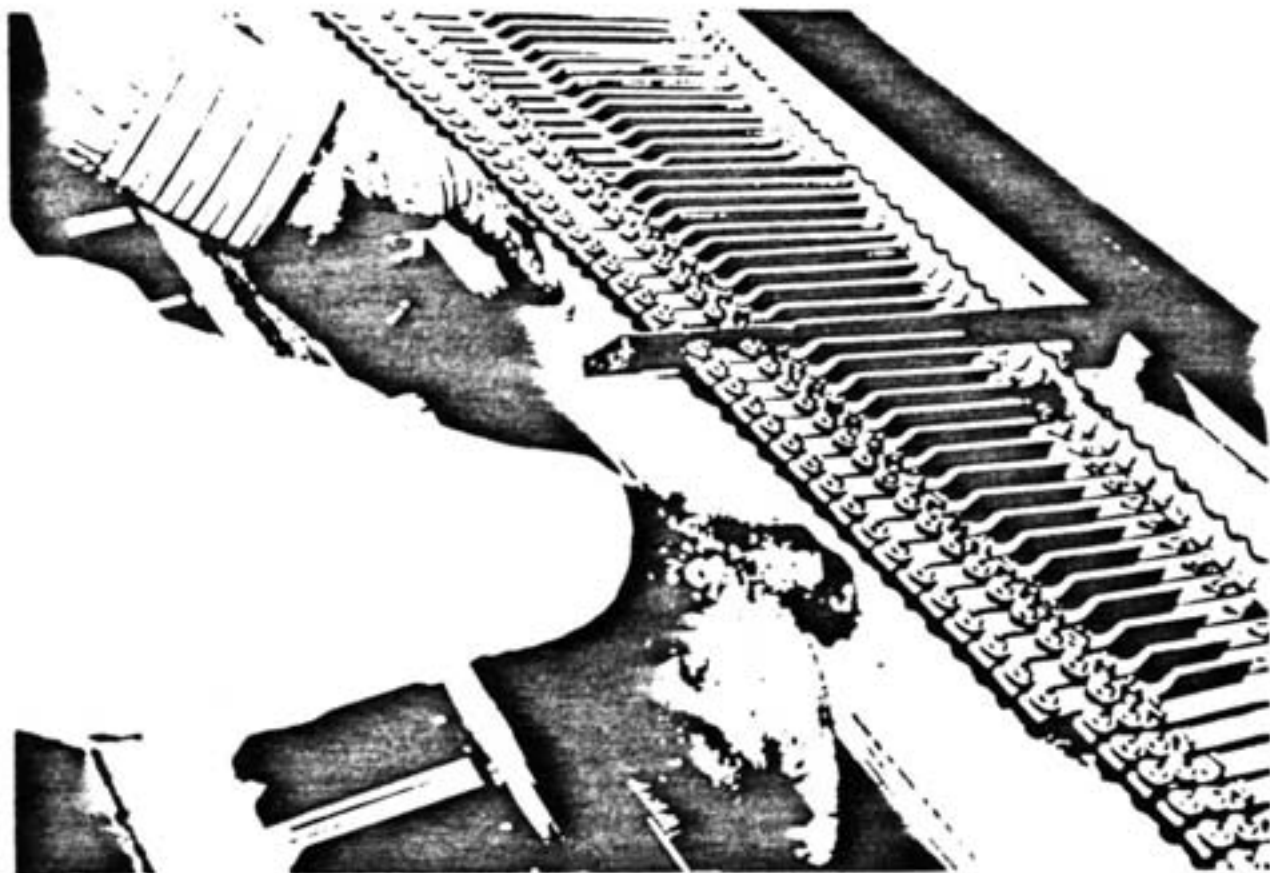

FIGURE 26
2. Raise the Harp to a vertical position. (See Figure 26).